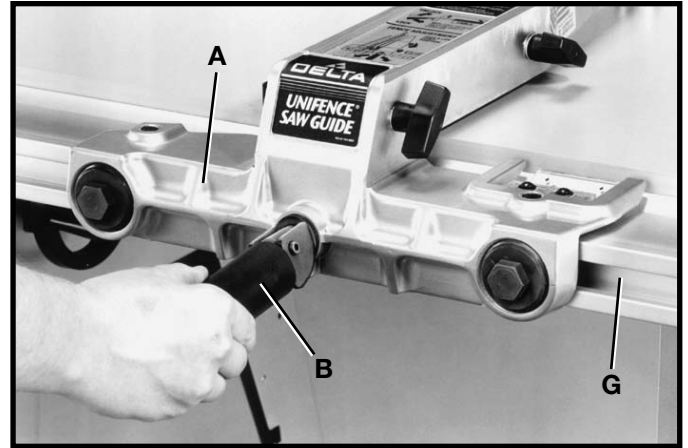

Fig. 71
2. Place fence body (A) Fig. 71, onto the guide rail, making sure that the clamp bracket is inserted into channel (G) on rail. Notice that the clamp handle (B) is turned to the left indent position.